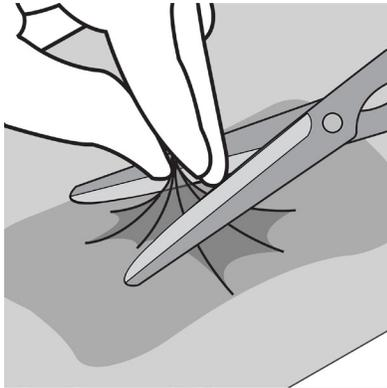

Figure 11
- Cut a 1cm diameter hole in the top of the drape at a convenient location over the dressing by pinching and lifting the drape (**Figure 11**).
- Cut a 1cm diameter hole, at a convenient location, by pinching and lifting the top layer of the dressing. (**Figure 11**).